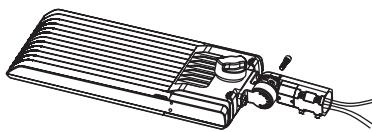

Figure 2
2. Pass the input wire through the center of the two sections and secure the bracket to the fixture housing with the (4) M8 × 25mm bolts (included). (Figure 2)